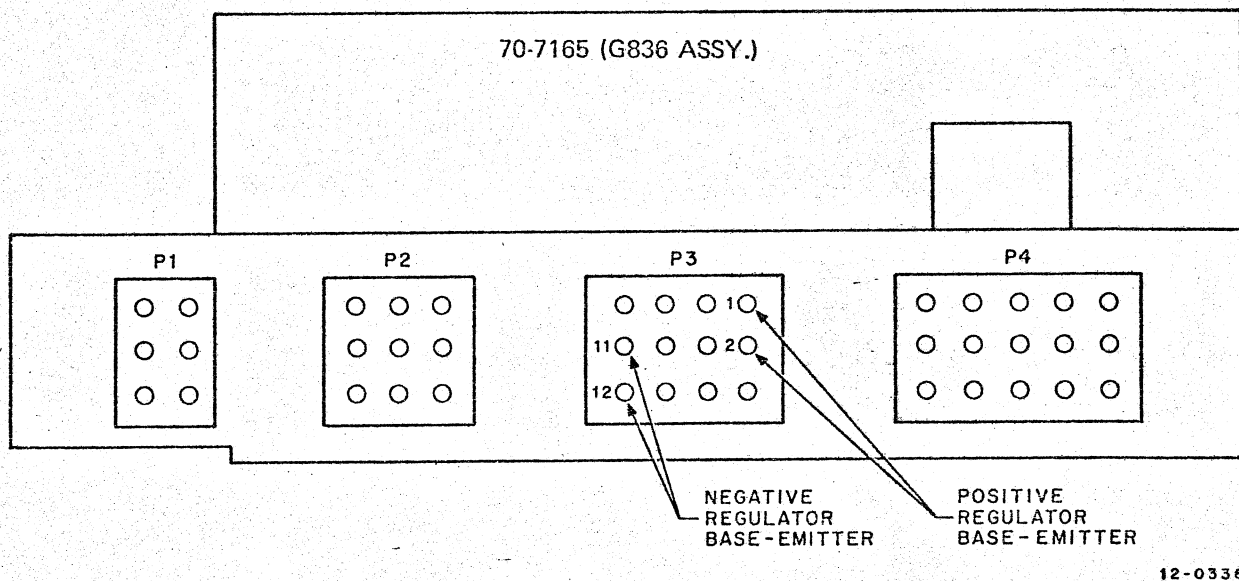

Figure 4 Base-Emitter Voltage Drop, Test Point Location
12. Refer to Figure 4. Measure the base-emitter voltage drop in the power supply heat sink assembly. Because only the positive supply is being used, it should indicate full drop, 1.2V, while the negative supply should indicate only standby drop 0.5V. If the positive supply measurement indicates 2.4V base-to-emitter drop, then one of the 2N4399 transistors is open. Replace both 2N4399 transistors!